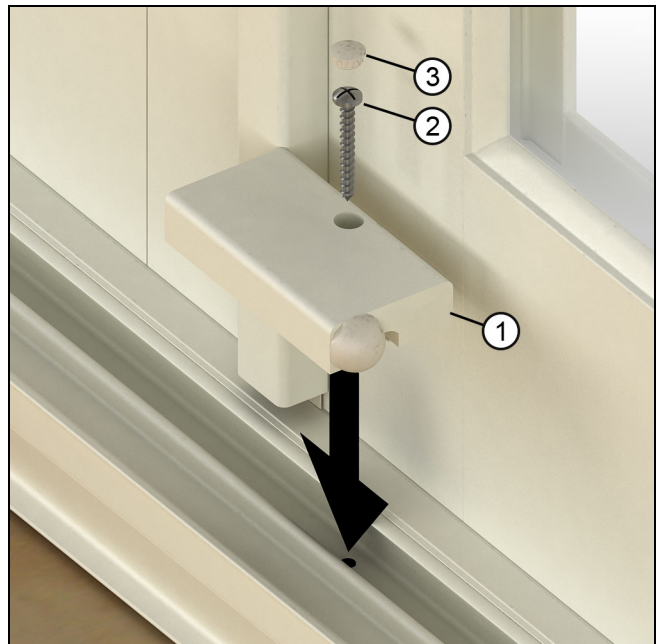

Figure 21
2. For Stop block installation on OOX/XOO, install stop block using #10 x 1 1/2" pan head screw into pre-drilled hole on sill. Cover the stop block hole with the jamb hole plug. See Figure 21.